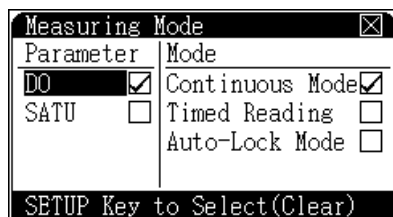

Figure 13 Measuring modes
- 4 The **Measuring Mode** screen displays **Parameters** on the left and **Modes** on the right. See Figure 13. Check marks indicate the current selections in use.